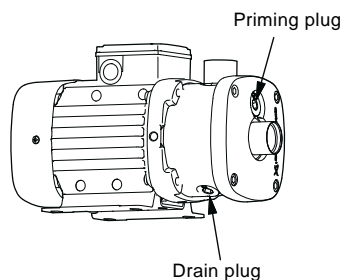

Fig. 11 Plugs in the pump sleeve
3. Remove the priming plug. See fig. 11.
Remove the priming and drain plugs. See fig. 11.